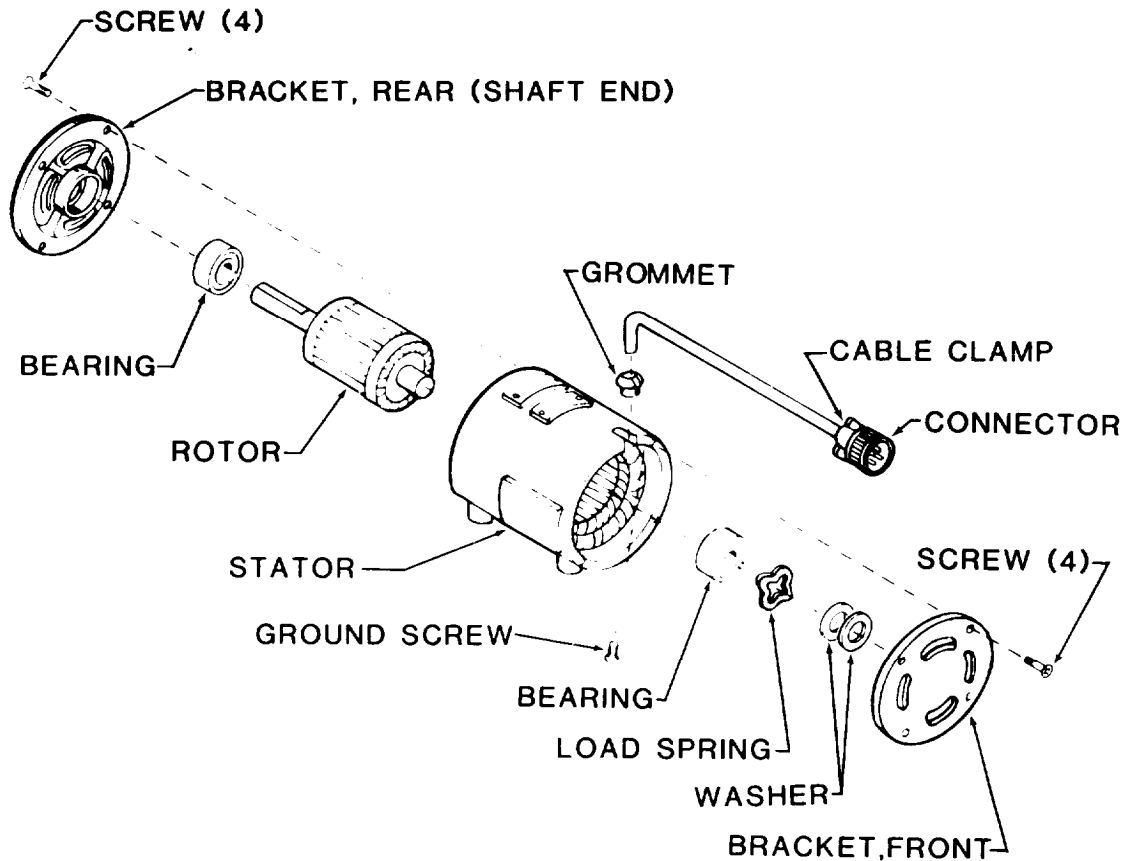

Figure 5-2. Motor Assembly, Welco Model M-4720-50
a. Motor Assembly, Welco Industries Inc., Model M4720-50. (See fig. 5-2.)
(1) To replace connector: